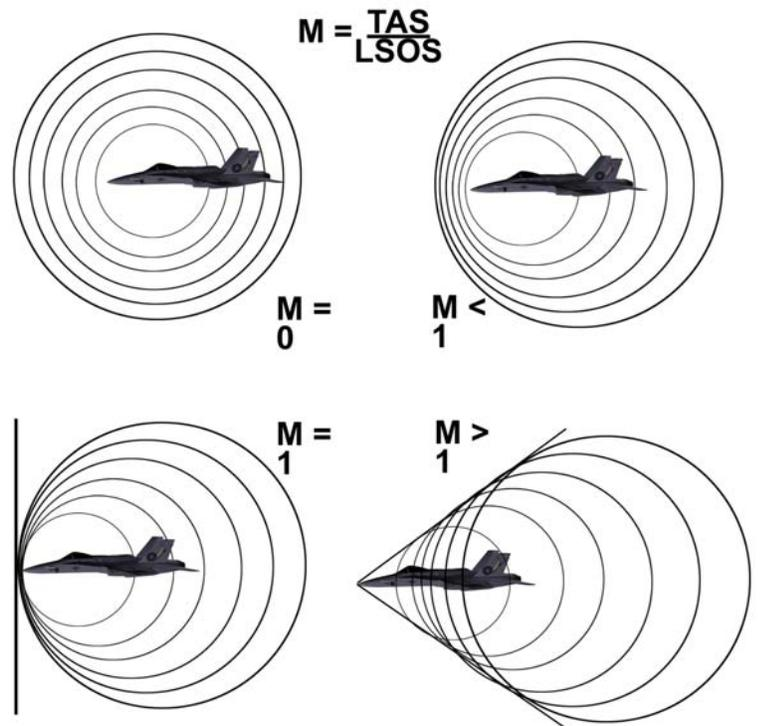

Figure 4.4-8 Mach Number
As an airplane flies, velocity and pressure changes create sound waves in the airflow around the airplane (Figure 4.4-8). Since these sound waves travel at the speed of sound, an airplane flying at subsonic airspeeds will travel slower than the sound waves and allow them to dissipate. However, as the airplane nears the speed of sound, these pressure waves pile up forming a wall of pressure, called a shock wave, which also travels at the speed of sound. As long as the airflow velocity on the airplane remains below the local speed of sound (LSOS), the airplane will not suffer the effects of compressibility. Therefore, it is appropriate to compare the two velocities. **Mach Number (M)** is the ratio of the airplane's True Airspeed to the local speed of sound.